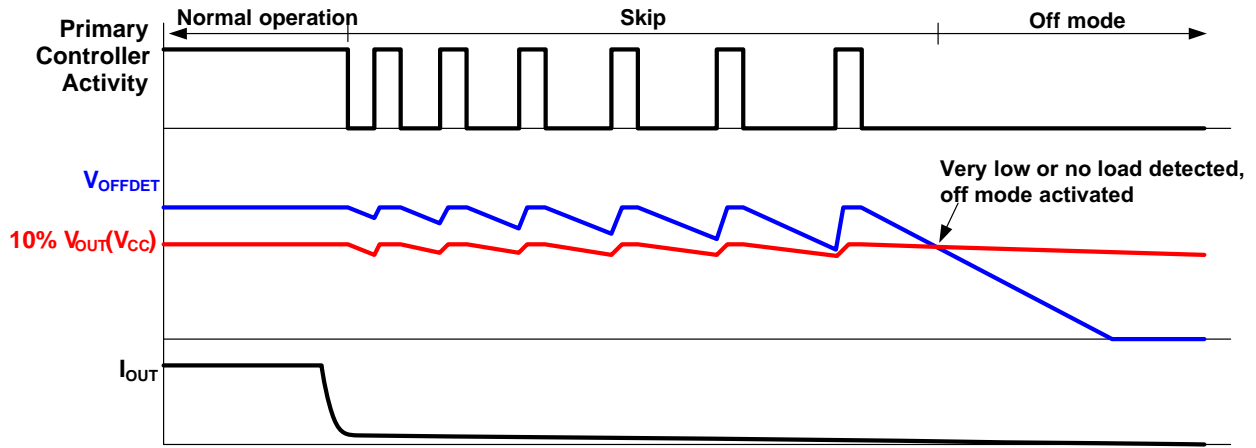

Figure 30. OFF Mode Detection
The OFF mode detection is based on comparison of output voltage and voltage loaded with fixed resistances (D2, C2, R8 and R9). Figure 30 shows detection waveforms. When output voltage is loaded with very low current, primary controller goes into skip mode (primary controller stops switching for some time). While output capacitor C1 is discharged very slowly (no load condition), the capacitor C2
While both C1 and C2 are discharged during the missing cycles, C2 discharge will be faster than C1 without output current, V_{OFFDET} drops below $V_{OFFDETTH}$ and OFF mode is detected (7). This situation is shown in Figure 30 in detail. When OFF mode is detected, internal pull-up current I_{BIASV} is switch on (7), VSNS voltage increases (due to I_{BIASV}) and voltage amplifier sinks full current to keep primary FB voltage below skip level until OFF mode is detected by the primary side controller (8). Current into ONOFF pin or DRIVE pin begins to flow at the same time, when entering into OFF mode (7). When OFF mode is detected by primary side controller (8a), primary FB injected current decreases to a lower level to reduce overall power consumption. Optocoupler current, can also be reduced from that time to keep the level below restart level. Secondary side controller decreases optocoupler current (voltage transconductance amplifier stops to sink current) when VSNS voltage drops below V_{REF} (9) and I_{BIASV} is also switch off when V_{SNS} is lower than 90% of V_{REF} to reduce overall consumption. This point is defined by I_{BIASV} current, R6, R4 and R5 resistors and discharging time of output capacitor C1. Discharging of C1 continues (10) until output voltage drops below level set by voltage divider at V_{MIN} pin (except NCP4353A where minimum V_{OUT} is defined only by VCC UVLO) (11). ONOFF current stops and thanks to internal pull-up, the primary FB voltage rises above restart level (12) and primary controller starts switching (13). Output capacitor C1 is recharged (14) to set voltage. If there is still light load condition primary controller goes to skip mode (15) again and after some time secondary controller detects OFF mode by very light or no load condition (16) and whole cycle is repeated.